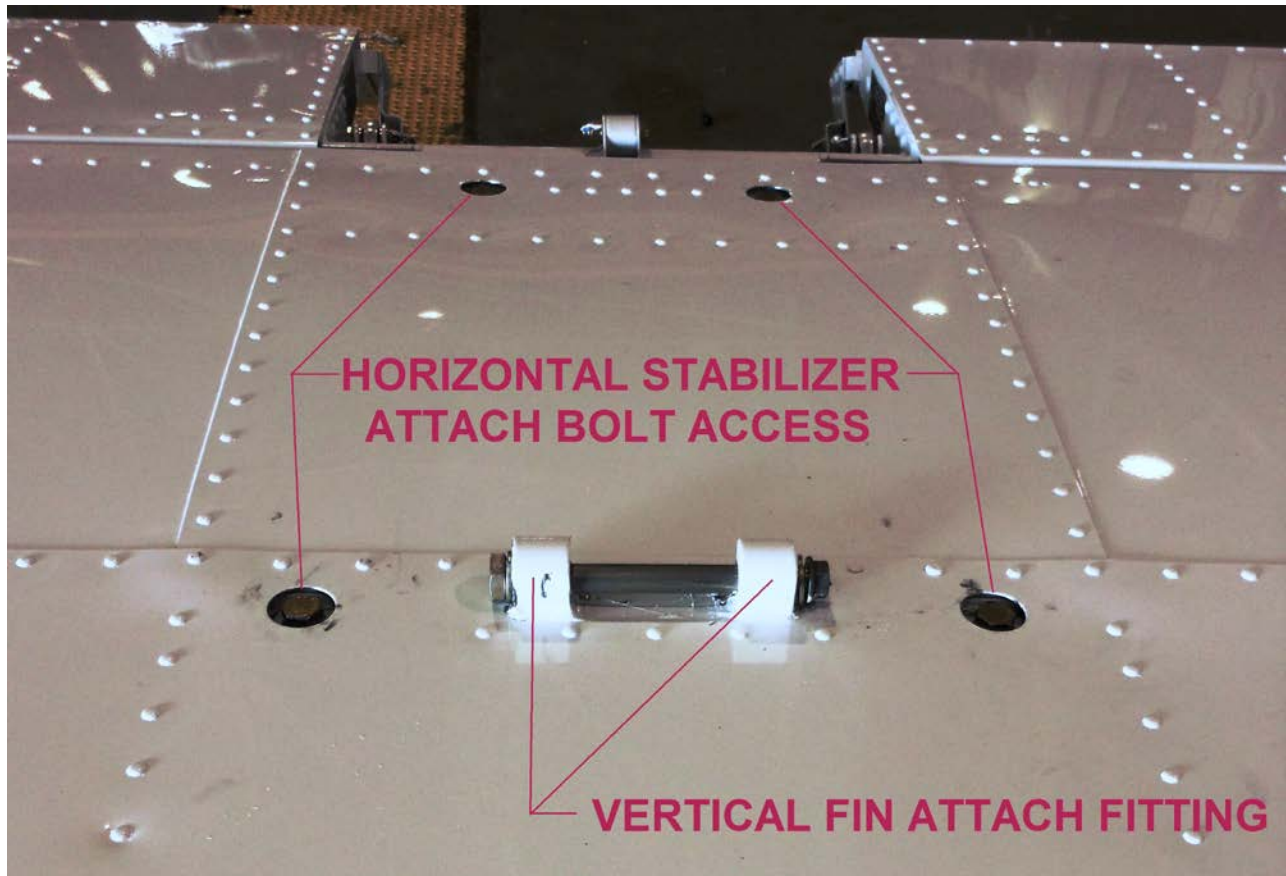

Figure 55-3: Horizontal Stabilizer with Vertical Fin Attach Fitting
4. Inspect the vertical fin attach fitting (see Figure 55-3) on the horizontal stabilizer for bolt security and any relative motion between the fitting and the horizontal stabilizer when force is applied to the vertical fin as above. If motion is detected, proceed immediately to the periodic inspection, below.